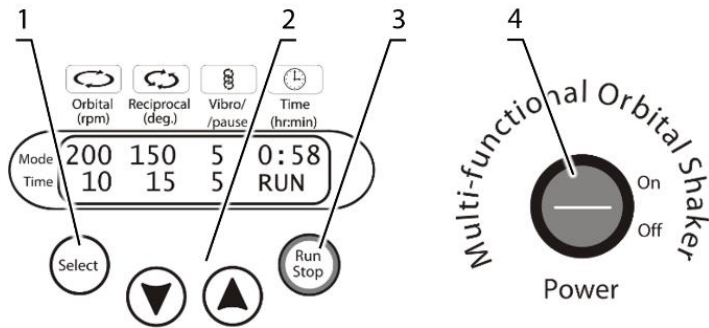

Figure 3. Control panel of PSU-20i
- 5.2.1 Connect the external power supply to the mains and switch on the **Power** switch (fig. 3/4).
- 5.2.4 Press the **Run Stop** key (fig. 3/3) to start the program. The platform motion starts, the indication RUN, and the changing time values are shown on the display.
- 6.3 Press the **Select** key (fig. 3/1) to choose the parameter to change. Each pressing of the **Select** key consecutively activates the parameters. The active parameter is flashing. Use the ▼ and ▲ keys (fig. 3/2) to set the necessary value. Pressing the key for more than 2 s increases the speed of value change.